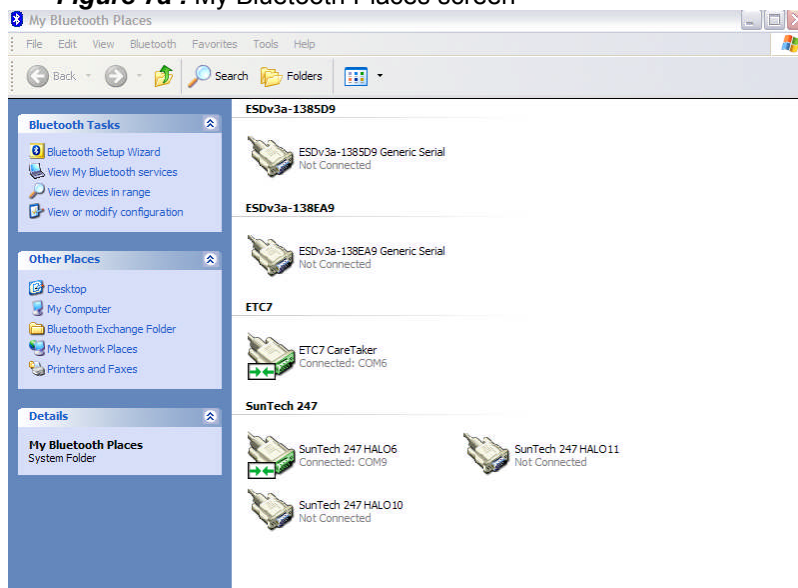

Figure 7b : My Bluetooth Places screen
- The device icon changes (as in **Figure 7b**) to opposing green arrows to indicated successful connection
- The following assumes that CareTaker has been paired with initially and that the connection with the device's serial port was established through **My Bluetooth Places** as described in section 5b for subsequent sessions (i.e. the Com port icons are featuring opposing green arrows, Figure 7b).